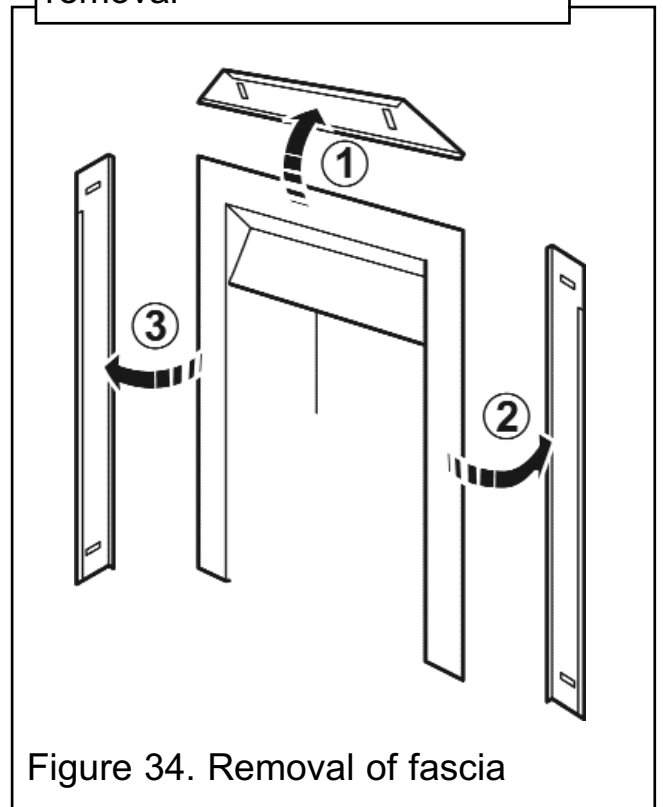

Figure 34. Removal of fascia
2. The fascia is made up of three trims. These trims are held in place by magnets. Remove the top trim by pulling forward. Place carefully aside (See figure 34).
3. Remove the side trims by pulling forward. Place carefully aside (See figure 34).